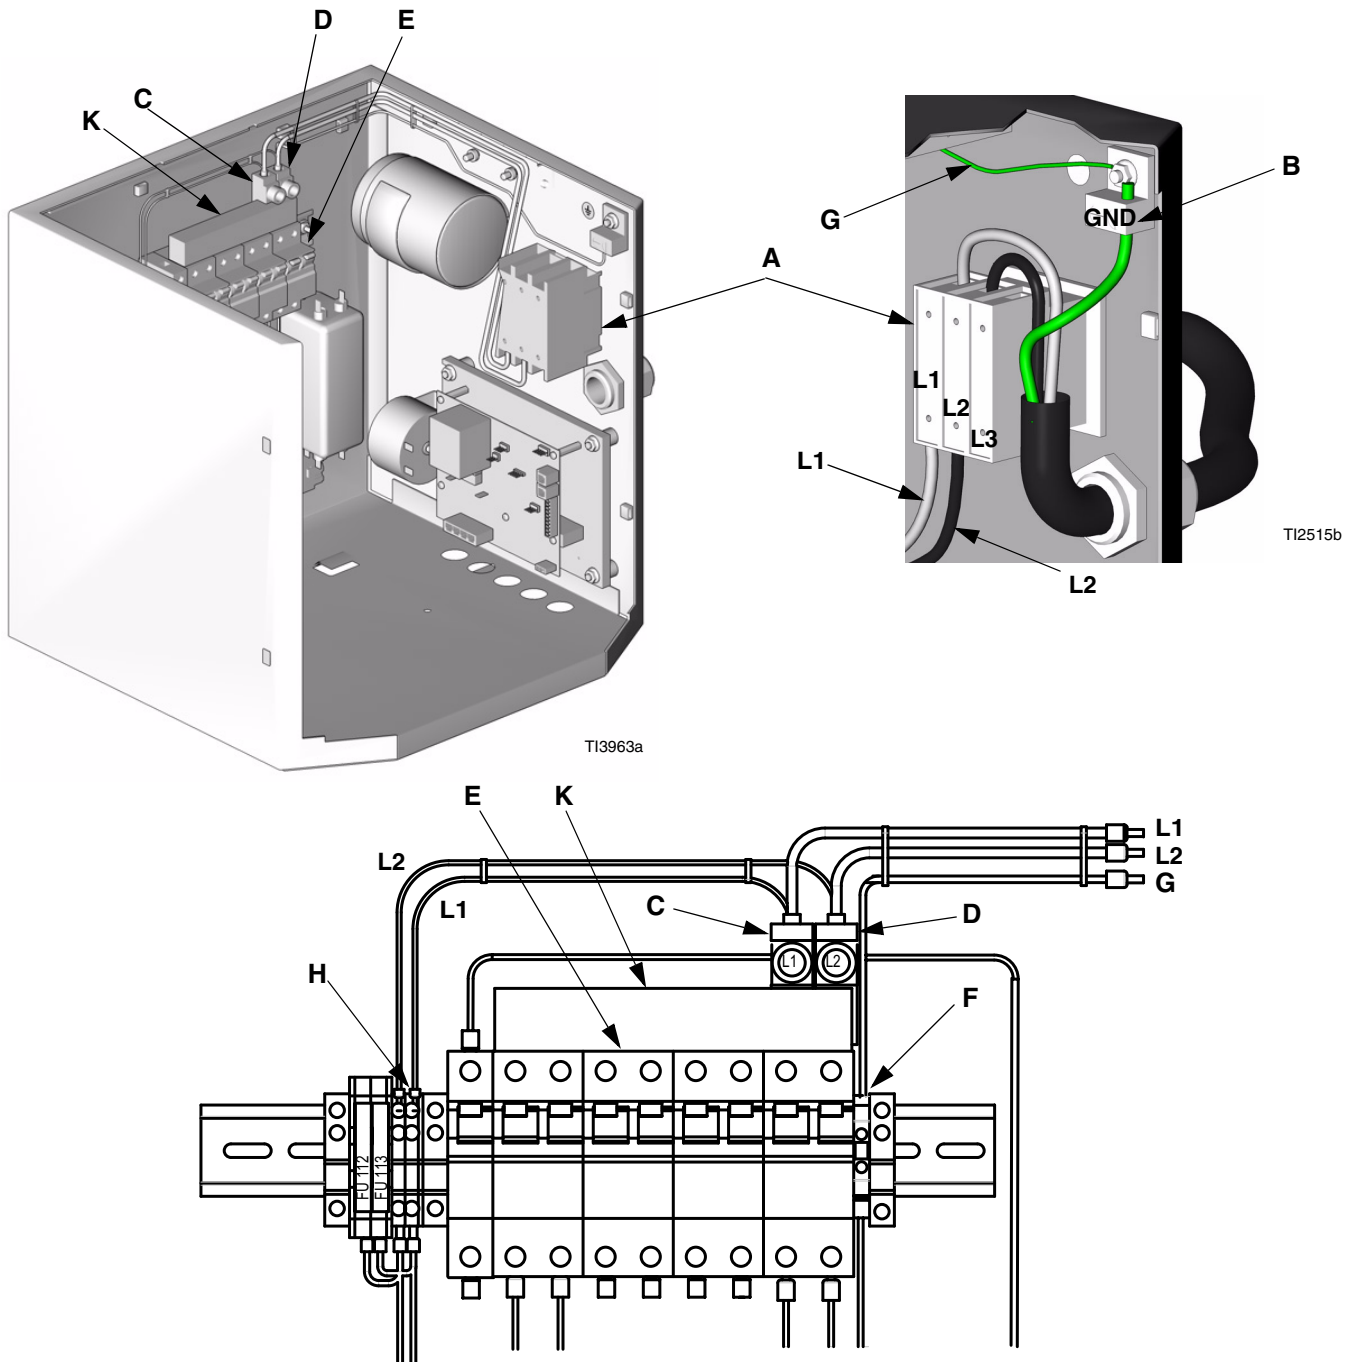

FIG. 1. Remove 1 Phase Wire Harness and Hardware
3. See FIG. 1 on page 2. Using 5/32 or 4 mm hex allen wrench, disconnect wire harness (L1, L2) from disconnect switch (A). Do not disconnect the main power leads.
4. Disconnect wire harness ground wire (G) from ground terminal (B).
5. Using a flat blade screw driver, disconnect other end of L1 and L2 wires from connectors (C, D) at circuit breaker module (E). Disconnect other end of ground wire (G) from ground terminal (F) at right of circuit breaker module.